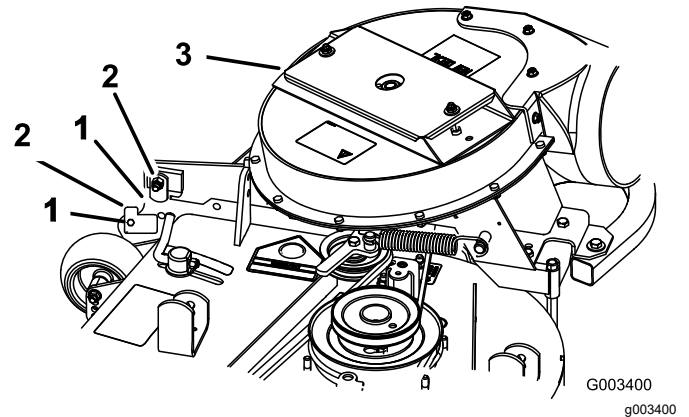

Figure 17
- Close the blower assembly to see if the latches are adjusted correctly (Figure 17).